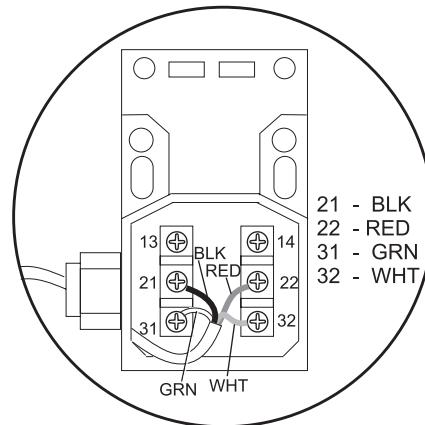

Figure 9
2. Install the Red, Black, Green, and White wires on the new Ball return Interlock Switch at terminals 21, 22, 31, and 32. Refer to *Figure 9*.